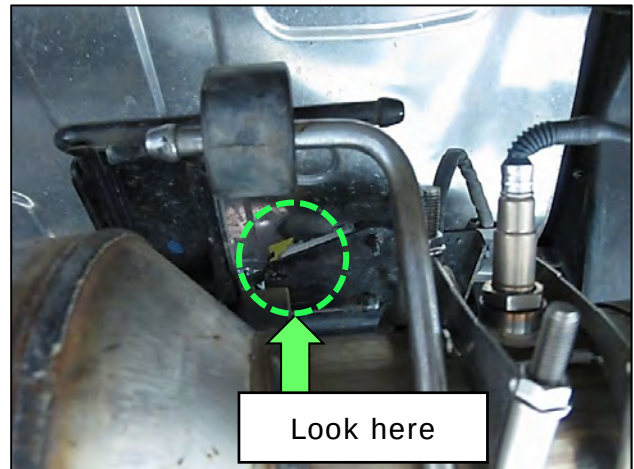
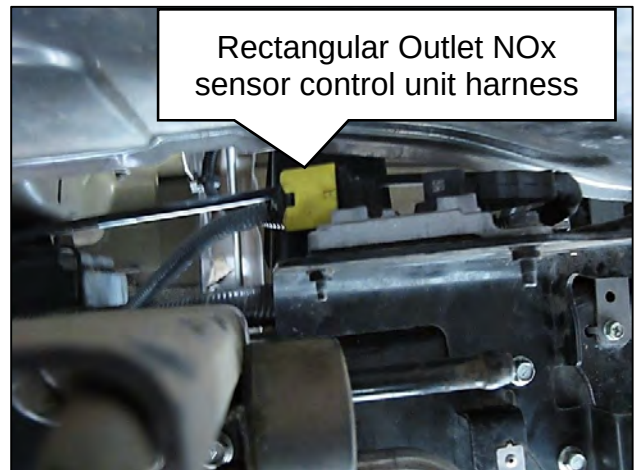

Figure 39
Figure 40
28. Disconnect the large rectangular (4-pin) wiring harness connector from the Outlet NOx sensor control unit (Figure 39 and Figure 40).